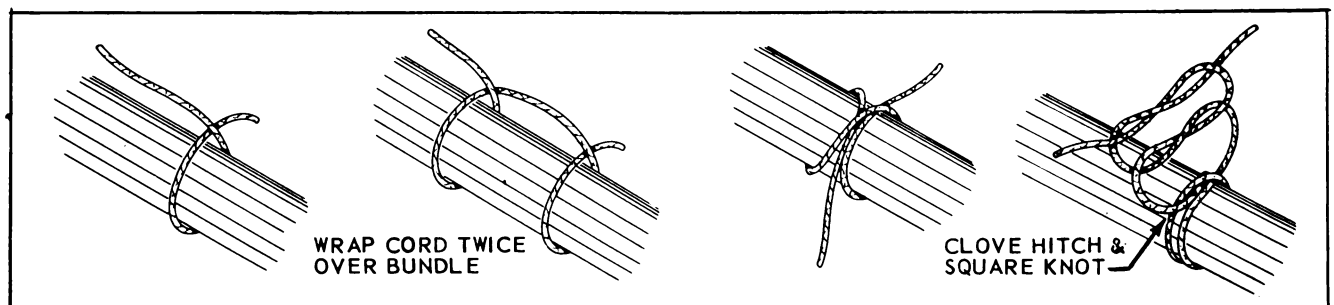

Figure 12-4. Making Ties
12-13. **MAKING TIES.** See Figure 12-4. Make tie as follows:
- Wrap cord twice around wire group or bundle, as shown in Figure 12-4.